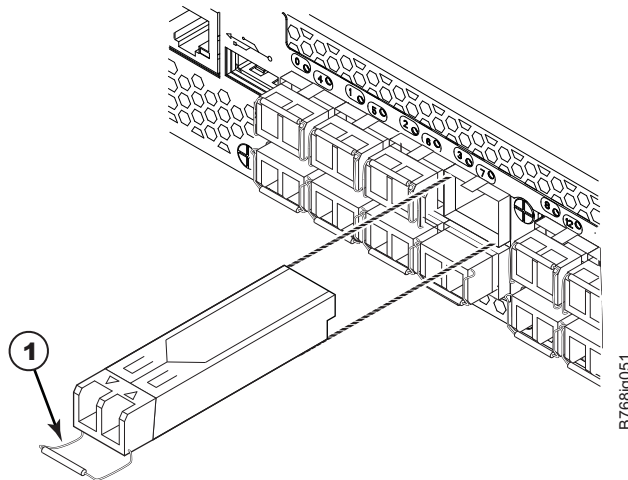

Figure 39. Removing and replacing an SFP+ optical transceiver
2. Using the hooked end of the tool, pull the bail (wire handle) **1** away from its pivot point and out, sliding the transceiver out of the port (Figure 39 on page 88).